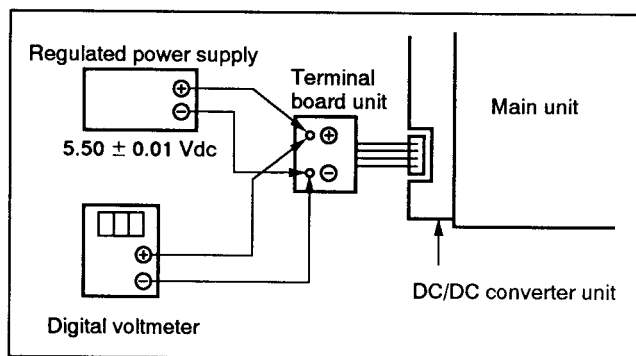

Fig. 10-6.
- 1) Connect the regulated power supply and the digital voltmeter as shown in Fig. 10-6.